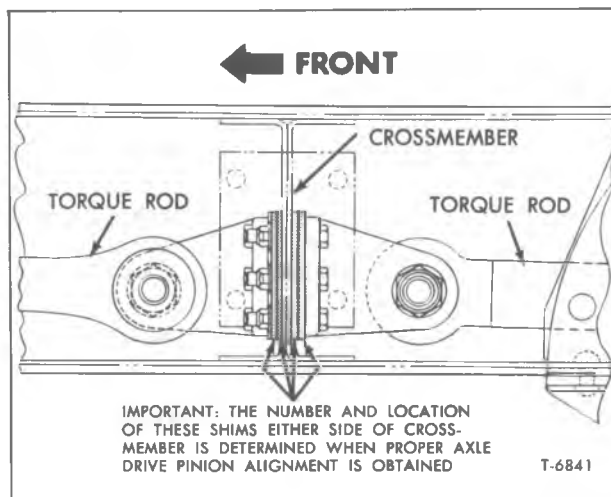

Figure 7—Torque Rods Installed at Frame Crossmember with Shims Installed (Typical)
**IMPORTANT:** The rear axle pinion must be adjusted up or down by shims at torque rod mounting bracket until the resultant angle of the forward axle pinion angle, subtracted from the inter-axle shaft angle, is equal to the resultant angle of the inter-axle shaft angle subtracted from the rear axle pinion angle. Refer to figure 7 for location of shims.